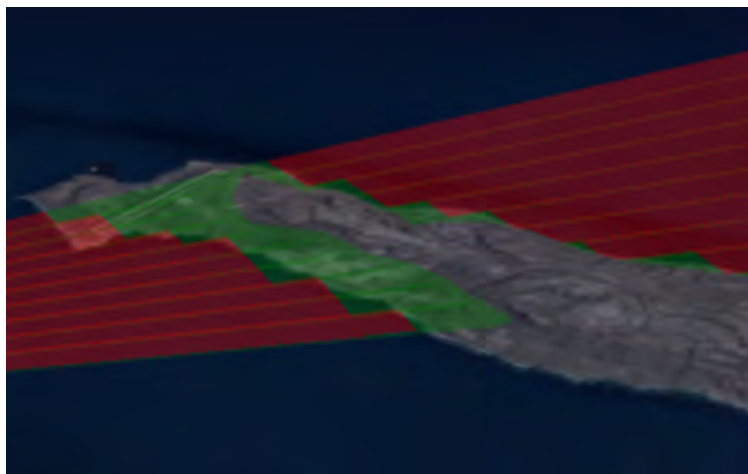

Figure 5.84: Loss with Elevation Data
13. When you have elevation data (in this example ReadyMap SRTM was used), the propagation loss is evident by the presence of land, shown in Figure 5.84. The propagation display will reflect the loss-of-propagation based on the **Thickness** parameter with elevation data.